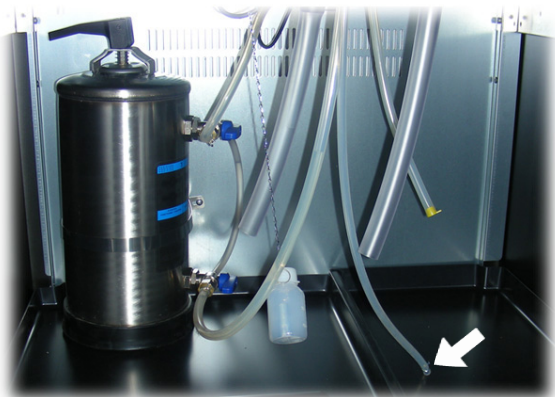

Fig. 105
- drain the water pipe. Remove the spring from the pipe (Fig. 105) and channel the water into a container. After draining the pipe completely, fit the spring back into its original position;